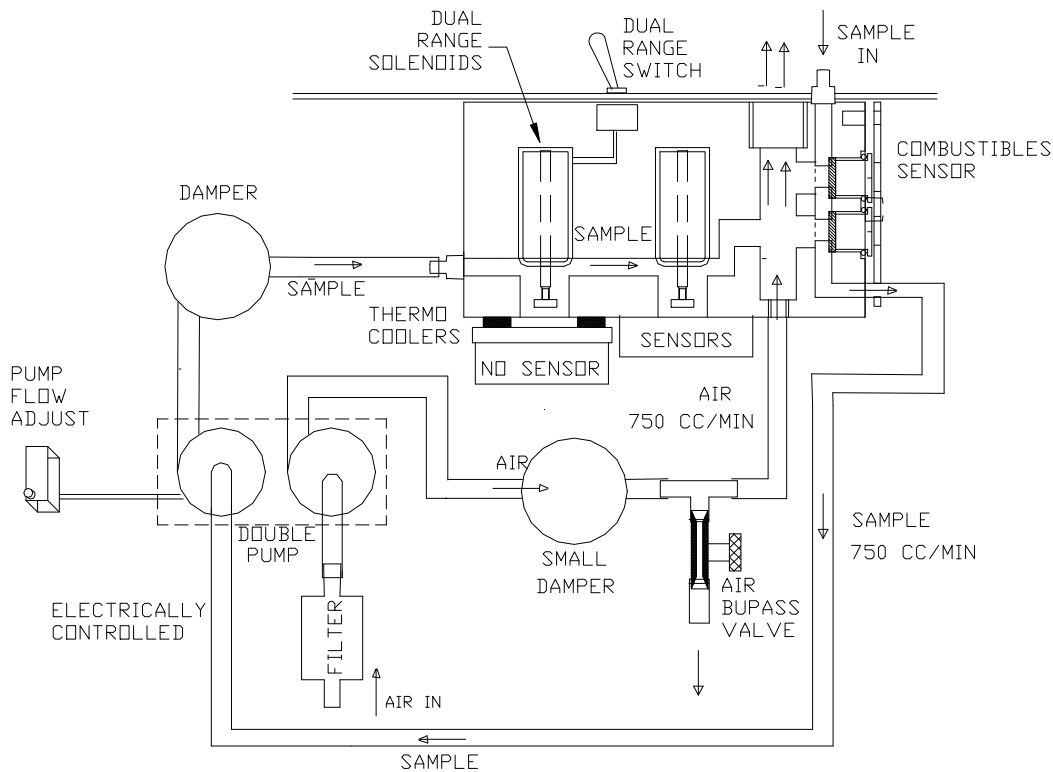

FIGURE 10 COMBUSTIBLES CONFIG.
which is referred to as the “sensor housing” (see figure 10).
- c. **AIR FILTER.** There are two filters inside the analyzer. A disposable filter is located on the suction side of the "air" pump section (see figures 10 and 10A). It is used as a precaution, when the instrument is used in a dirty environment. The other filter is mounted on the sensor housing to prevent dirt particles from reaching the pump, if the ENERAC is operated without the probe connected.
- d. **SAMPLE FLOW ADJUST POTENTIOMETER.** This is a small screw driver multiple turn potentiometer located on the printer circuit board as shown in figure 10.
- i. **The dual range switches.** The ENERAC model 3000E is equipped with the dual range switches for carbon monoxide, nitric oxide and sulfur dioxide. *The dual ranges of the sensors are listed in Table 1.* Figure 10 shows the location of the dual range switches on the ENERAC's face plate.
vii. **COMBUSTIBLES SENSOR.** (Figure 10)